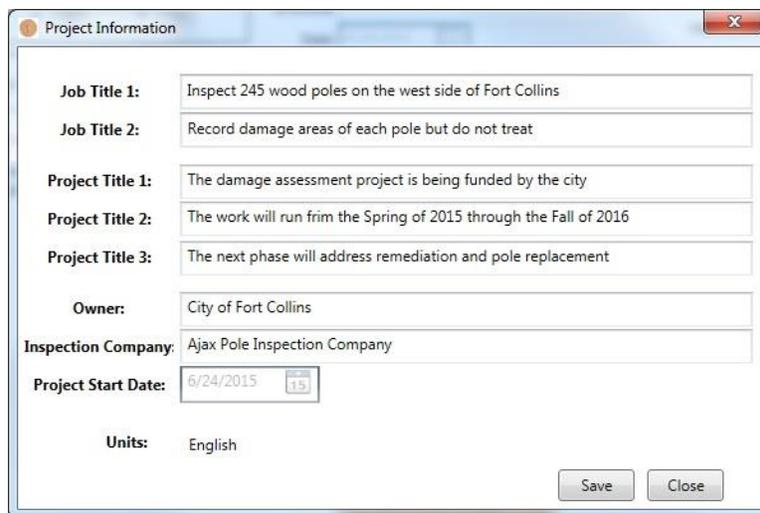

Figure 3-13. Project Information
- *Project Info* – When the **Project Info** button is clicked, the Project Information dialog is displayed as shown in Figure 3-13. All data in this dialog is associated with the currently selected database. The Project Start Date corresponds to the date when the currently selected database was created. Job, Project, Owner and Inspection Company information may also be entered and saved. The current system of units is also shown.